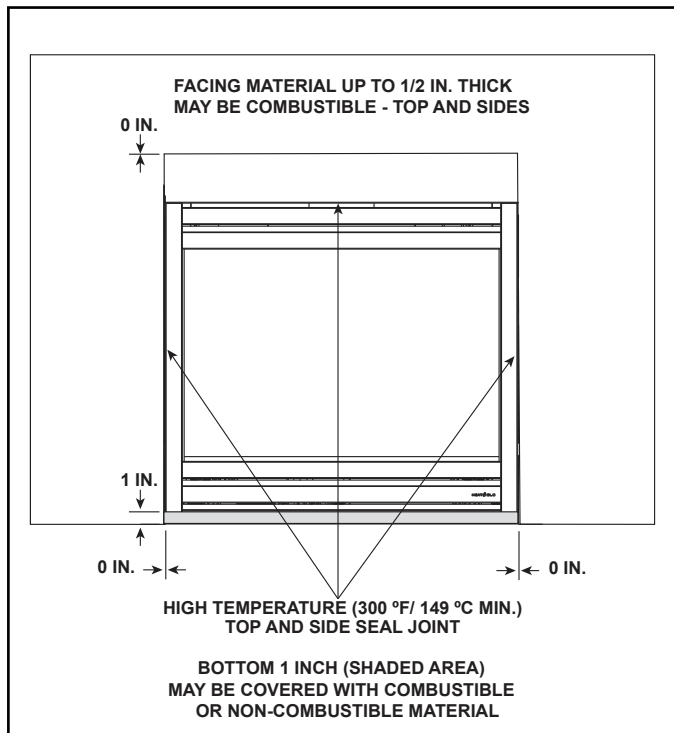
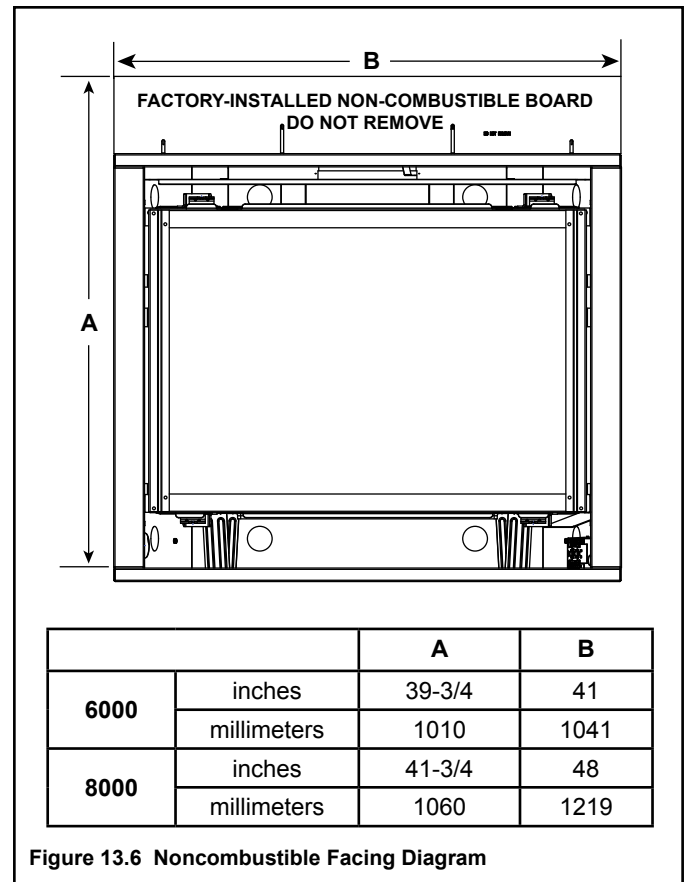

Figure 13.5 Facing Materials
Figure 13.6 Noncombustible Facing Diagram
- Seal joints between the finished wall and appliance top and sides using a 300 °F minimum sealant. Refer to Figure 13.5 and Figure 13.6.